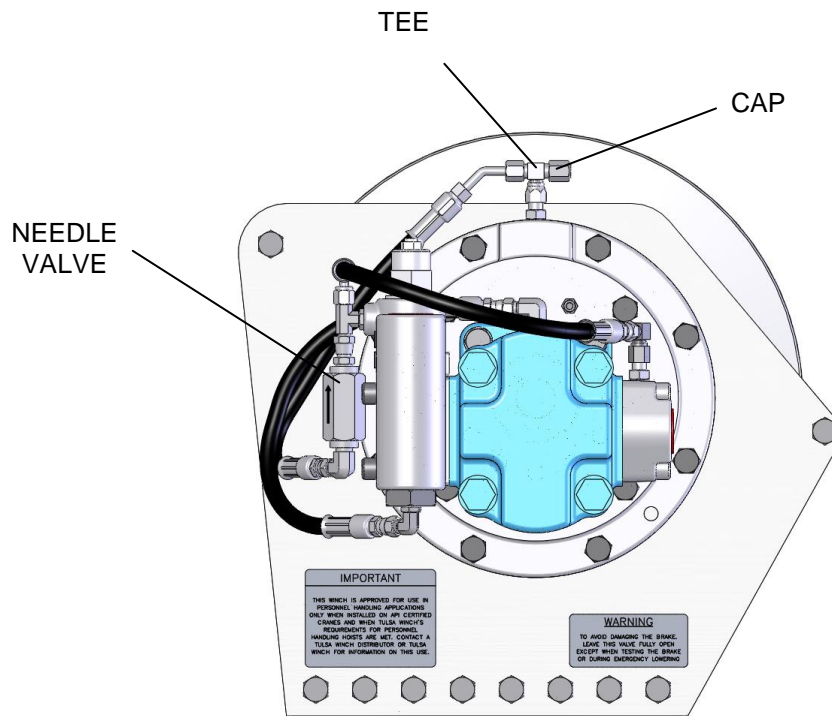

Fig. 3.1
Fully close the needle valve firmly. See Figure 3.1, Needle Valve Location.
Remove the cap from the unused tee connection. See Figure 3.1, Needle Valve Location.
1. Fully close the needle valve firmly. See Figure 3.1, Needle Valve Location.
2. Remove the cap from the unused tee connection. See Figure 3.1, Needle Valve Location.